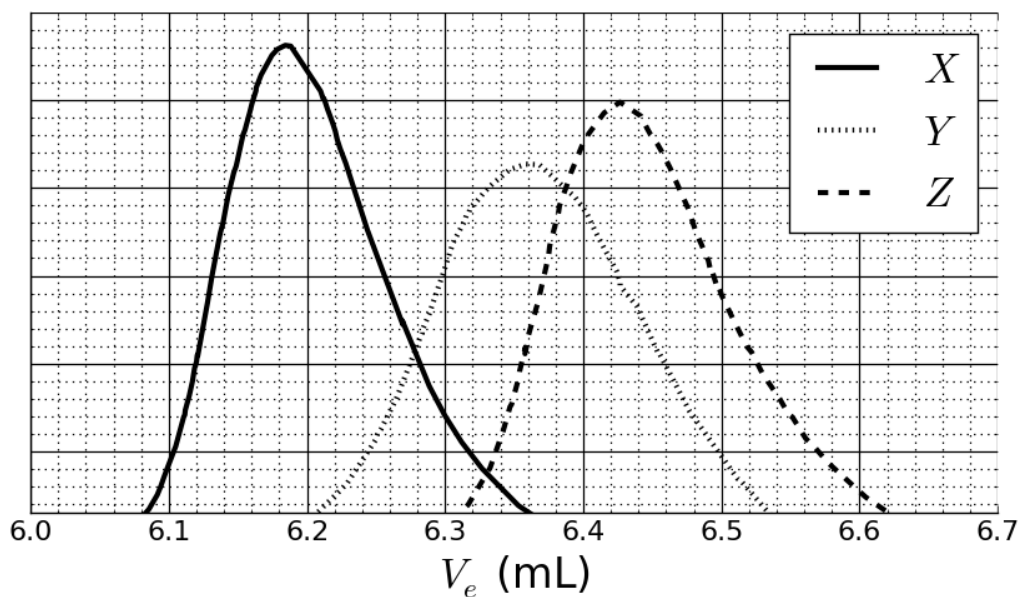

Fig. 2 – SEC chromatograms of **3a**, **3b** and **3c** as a function of the elution volume,  $V_e$ .
This reaction of **1** with **2** yielded the copolymers **3a** after 20 h, **3b** after 25 h and **3c** after 30 h of reaction at 40 °C. Results of size-exclusion chromatography (SEC) experiments are presented in Fig. 2.
6. **Match** the signals in Fig. 2 with the copolymers **3a**, **3b** and **3c**.
7. Based on the SEC curves in Fig. 2 and 3, **determine**  $V_e$  of the polymer that corresponds to curve X and use it to **estimate** the degree of polymerisation  $m$  of its second block. **Detail** your calculation; you may use a calculator or plot a graph.